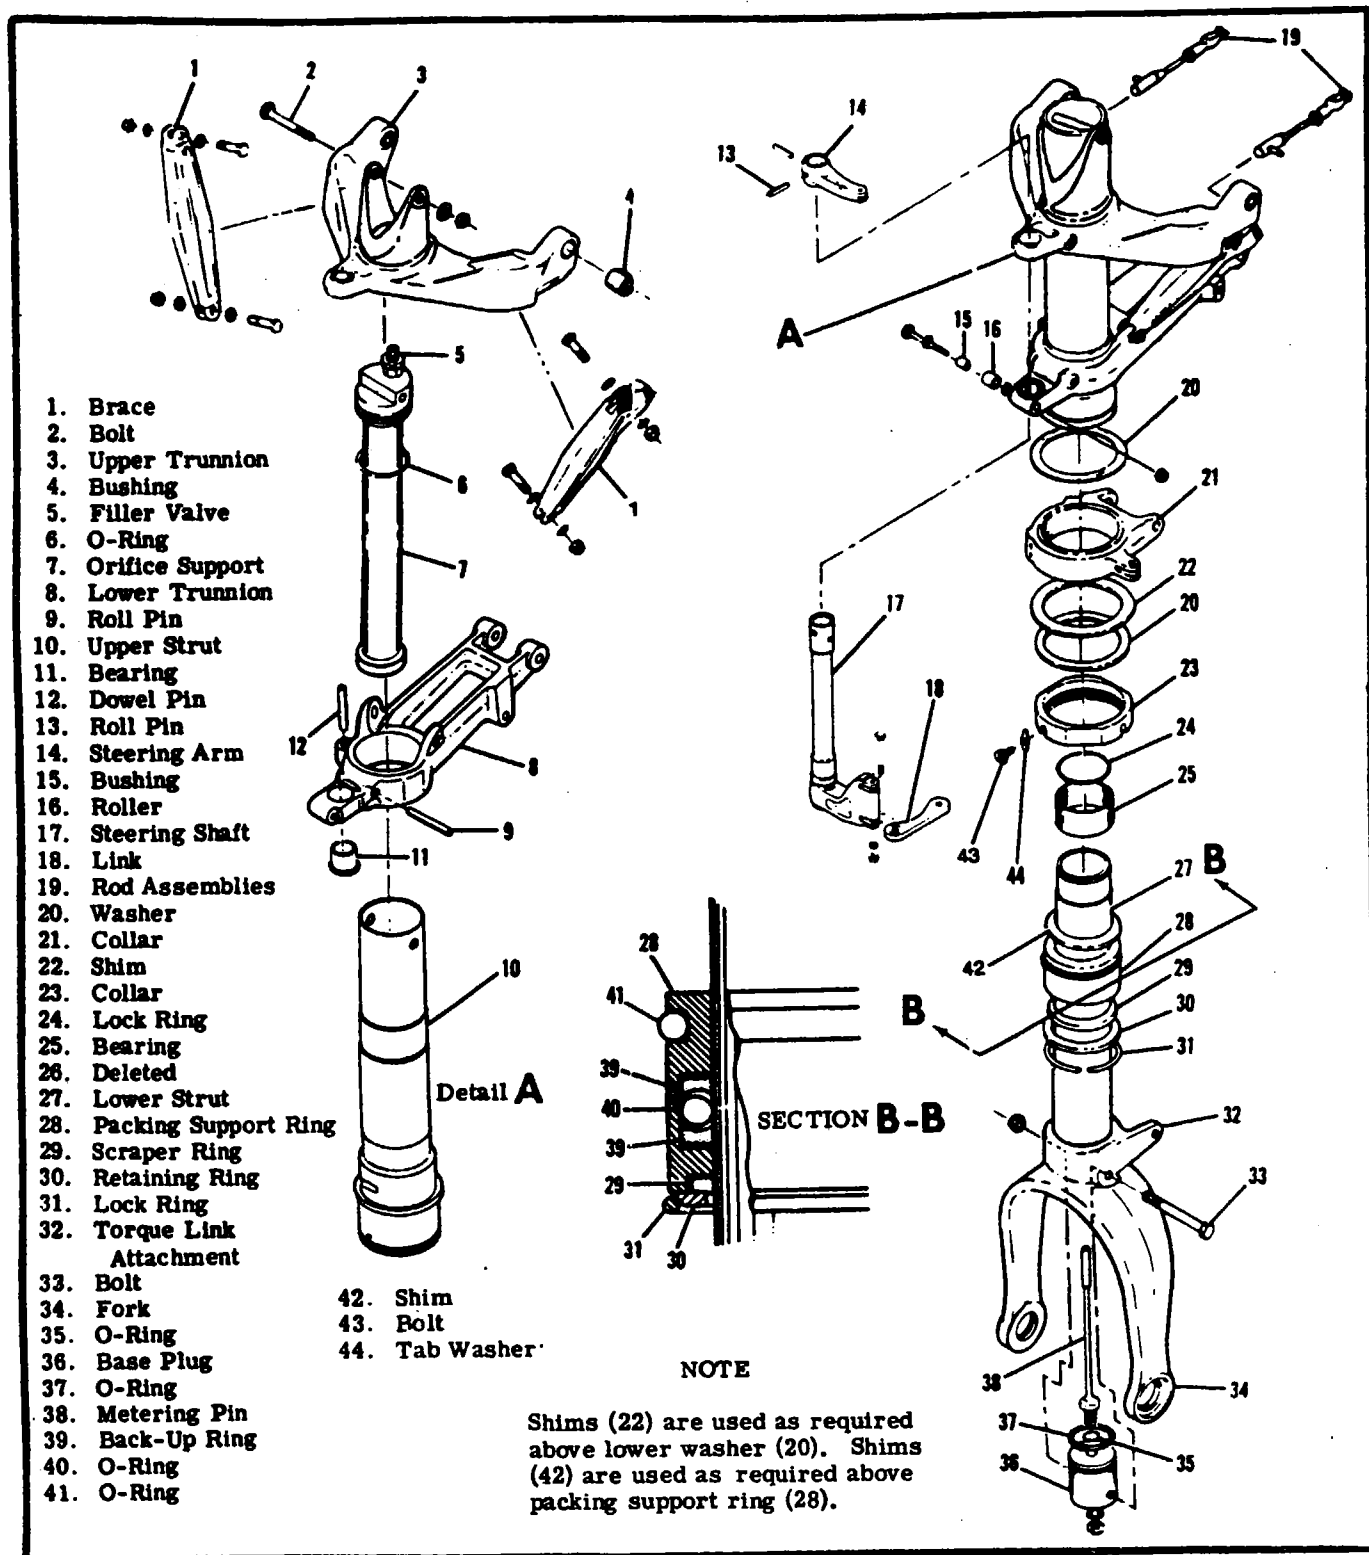

Figure 5-15. Nose Gear Shock Strut Assembly
5-87. DISASSEMBLY OF NOSE GEAR STRUT. (Refer to figure 5-15.)
5-88. INSPECTION AND REPAIR OF SHOCK STRUT COMPONENTS. (Refer to figure 5-15.)
5-89. REASSEMBLY OF NOSE GEAR STRUT. (Refer to figure 5-15.)
Shims (4) are available to use as required between torque link and nose gear fork to remove any looseness. Also, shim (15) is used as required (maximum of three shims) to prevent over-extension of the nose gear strut. See figure 5-15. Lubricate torque links with MIL-G-81522A general purpose grease.